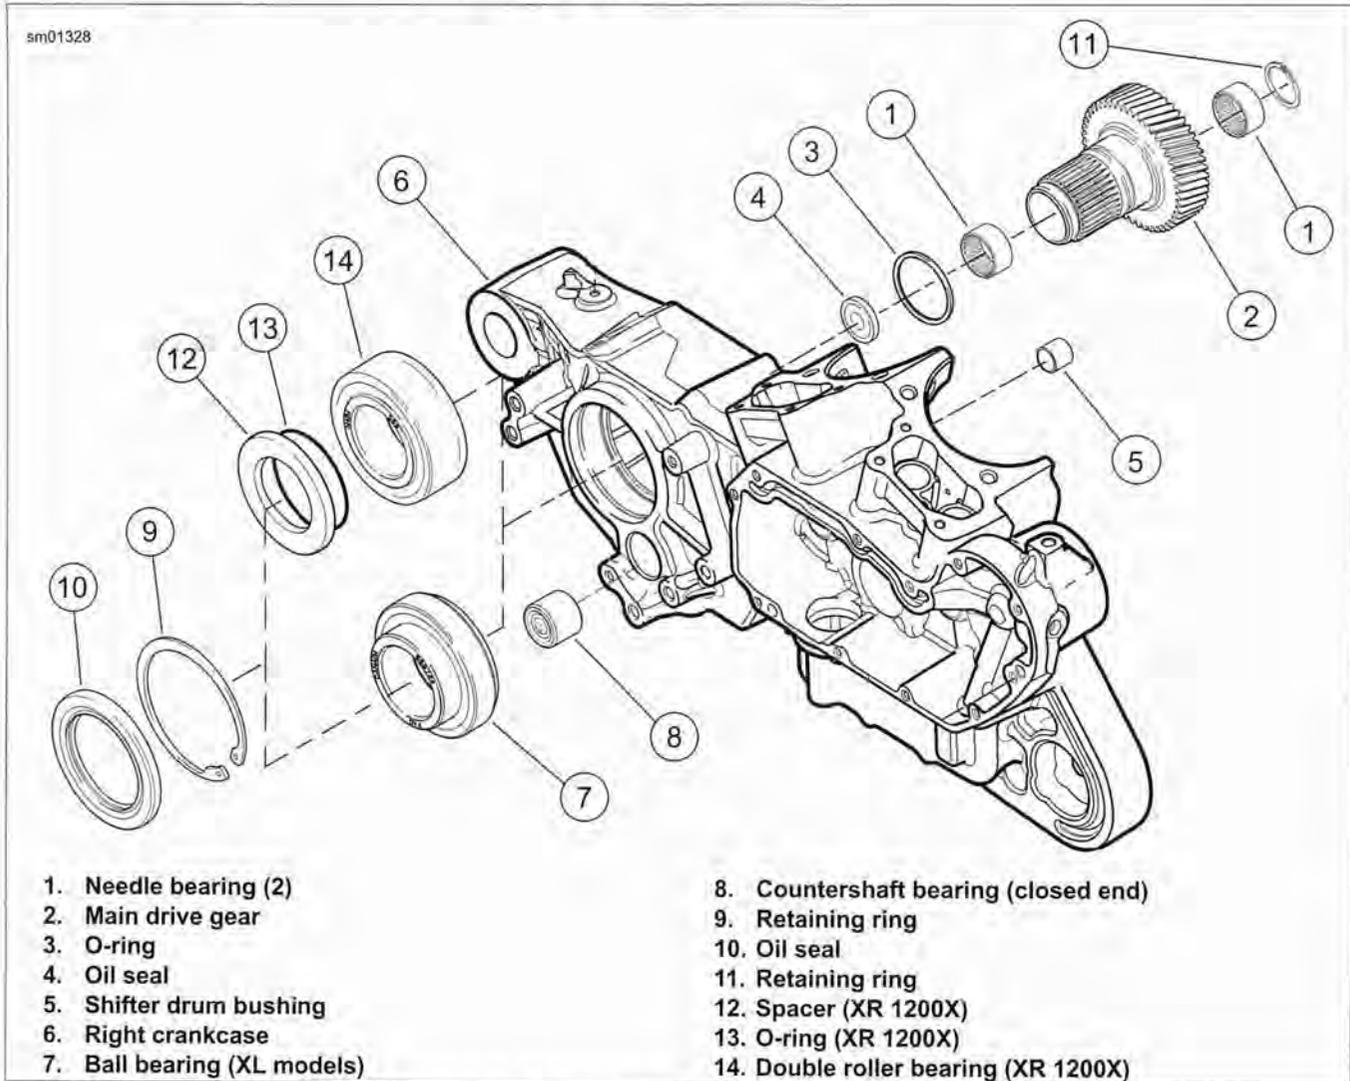
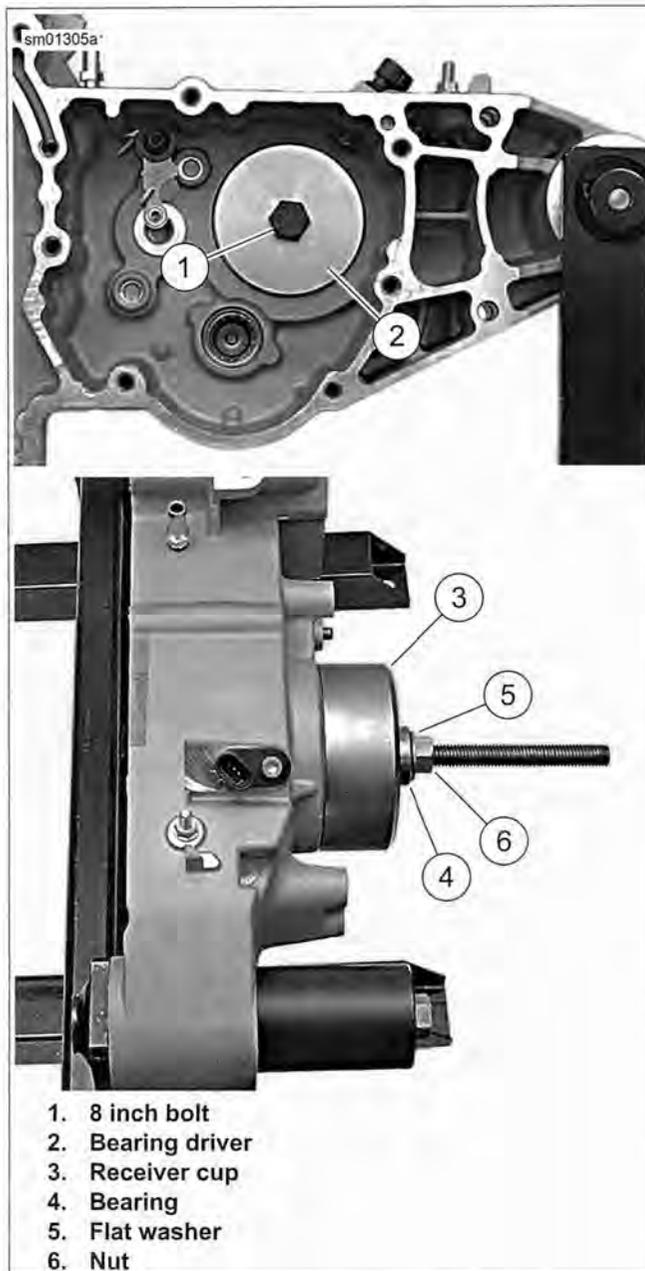
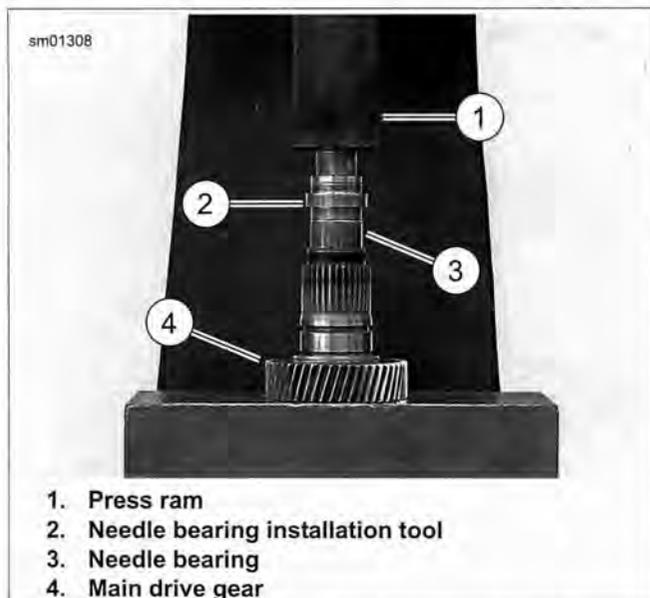
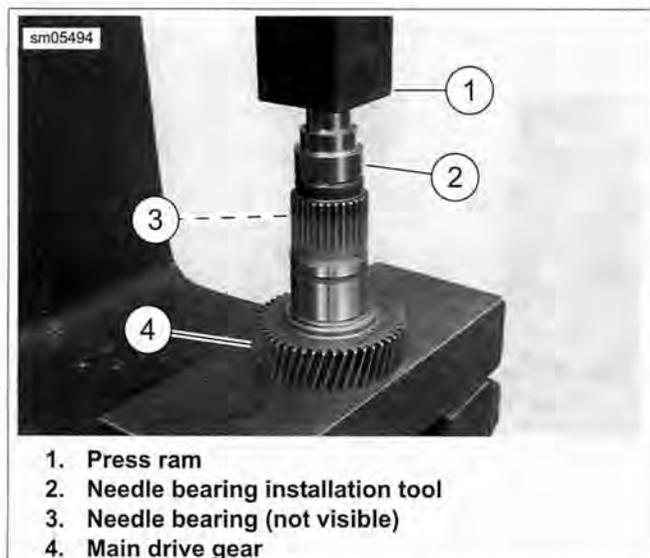

Figure 5-64. Main Drive Gear and Bearing Assembly
Figure 5-68. Removing Main Drive Gear Bearing (typical)
Figure 5-72. Pressing Outer Needle Bearing Assembly into Main Drive Gear: XL Models
Figure 5-73. Pressing Outer Needle Bearing Assembly into Main Drive Gear: XR 1200X
See Figure 5-64. When removing the main drive gear (2), the gear is pressed out against the resistance of the bearing (7 or
1. See Figure 5-64. Remove and discard oil seal (10). Remove and discard main drive gear bearing retaining ring (9).
2. **XR 1200X:** Remove spacer (12) and O-ring (13).
3. See Figure 5-68. Install driver components: From inside crankcase, position bearing driver (2) over main drive gear bearing.
4. Insert 8 INCH BOLT (Part No. HD-35316-4A) (1) through bearing driver and bearing.
5. At outside of case, slide RECEIVER CUP (Part No. HD-35316-11) (3) onto bolt and over bearing. Install the bearing (4), flat washer (5) and nut (6) over end of bolt.
1. See Figure 5-64. Remove retaining ring (11) from inboard end of main drive gear (2). Discard retaining ring.
4. See Figure 5-72 or Figure 5-73. Place main drive gear (4) on press bed with gear end facing down.
- Place needle bearing (3) squarely into end of drive gear with lettered side of bearing facing up. Always press on lettered side of bearing to install. Insert installation tool (2) with end stamped "OUTER" facing needle bearing.
- See Figure 5-64. Install **new** retaining ring (11) in inboard end of main drive gear (2).